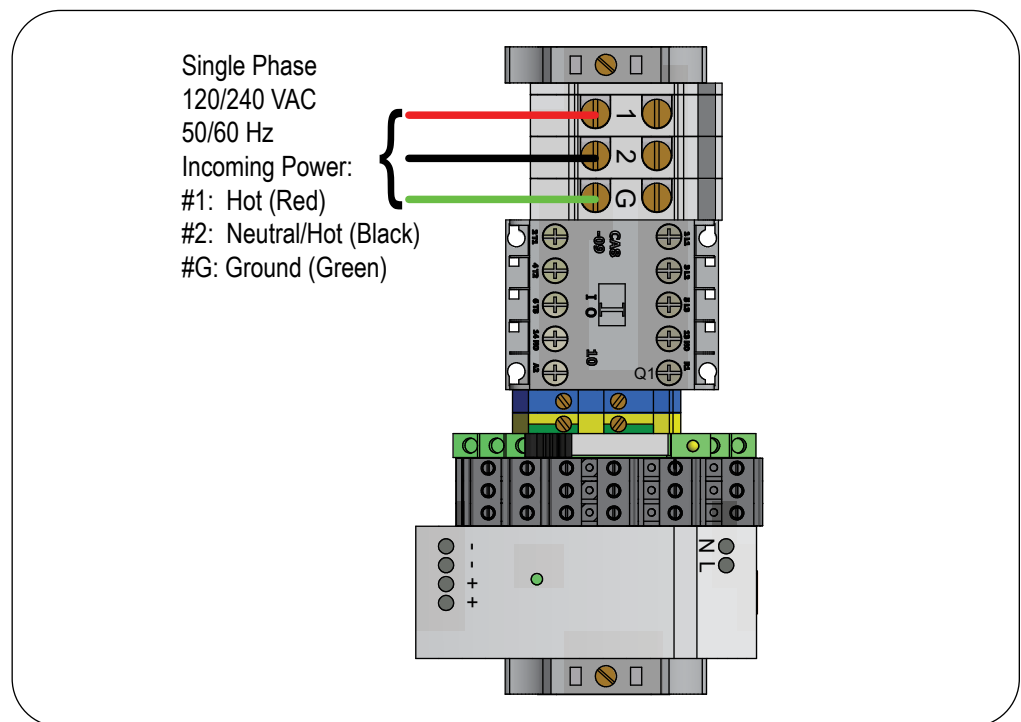

Figure 15: Wiring the Power Supply
4. Locate the contactor block inside enclosure and connect the power cable to terminals 1, 2, and G as shown in *Figure 15*.